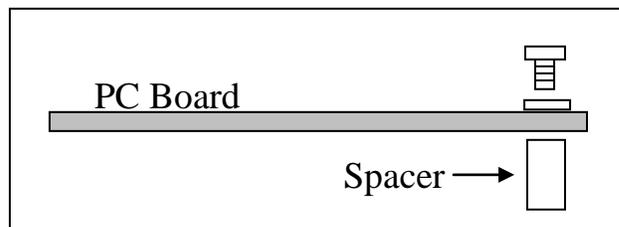

Figure 11. Spacers mounted to the bottom of the PC board
4.  Install two spacers (Figure 11) below the rear corners of the PC board using 1/4 inch long, 4-40 screws and lock washers.